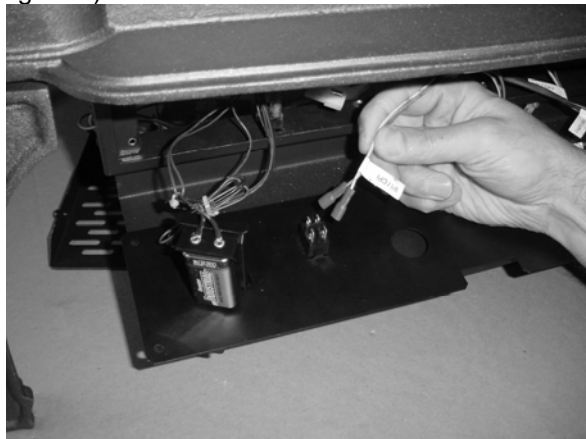

Figure 7
- 5 Disconnect the two leads on the back of the control panel for the IPI / CPI switch (continuous pilot / greensmart pilot – see Figure 7).